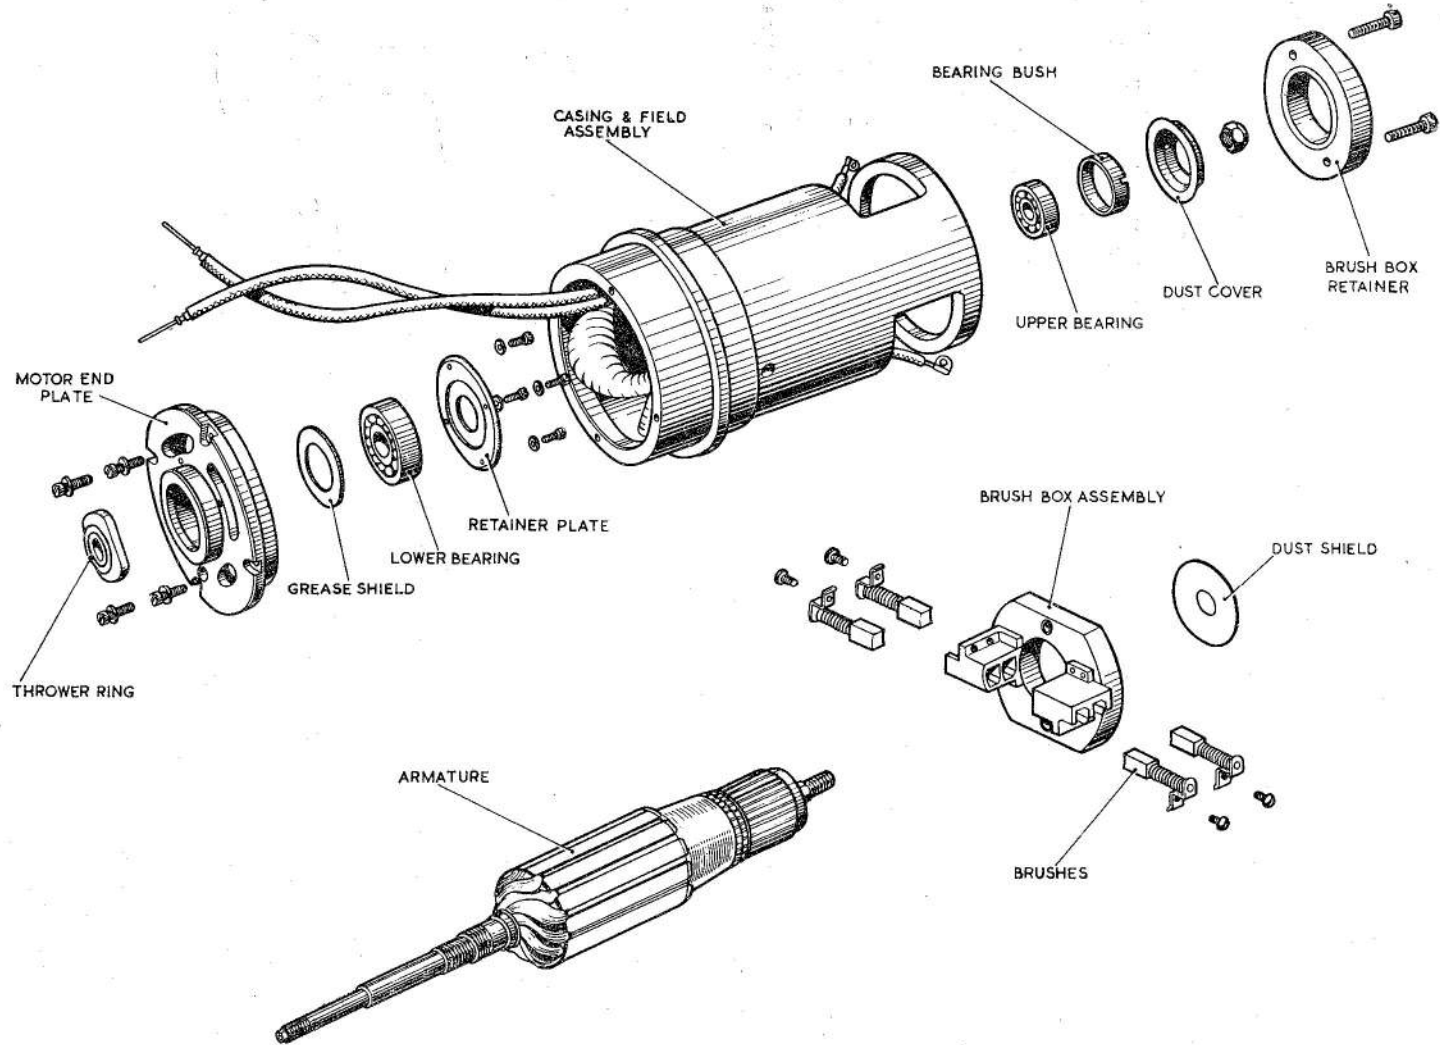

Fig. 6. Motor details
15. Fig. 6 shows details of the motor, which may be dismantled by following the sequence detailed in the following paragraphs.